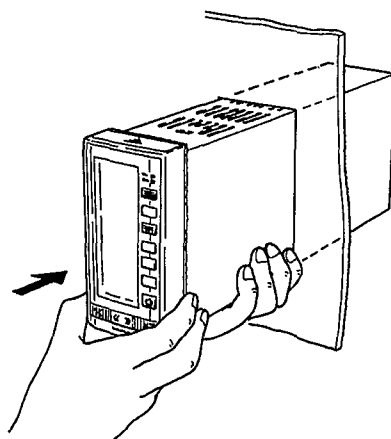

Figure 3.1 Inserting in the Panel
- ① Using a screw driver, loosen the two screws of the mounting brackets supplied with the unit.
- ② Insert the unit in the front of the panel (see Figure 3.1).